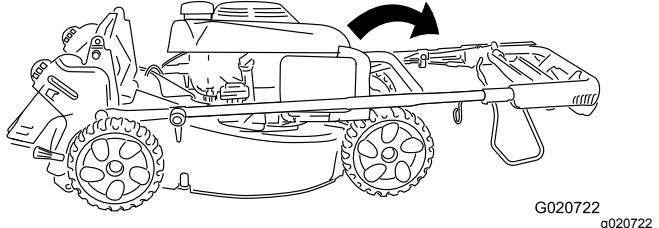

Figure 21
2. Rotate the entire handle forward (Figure 21).